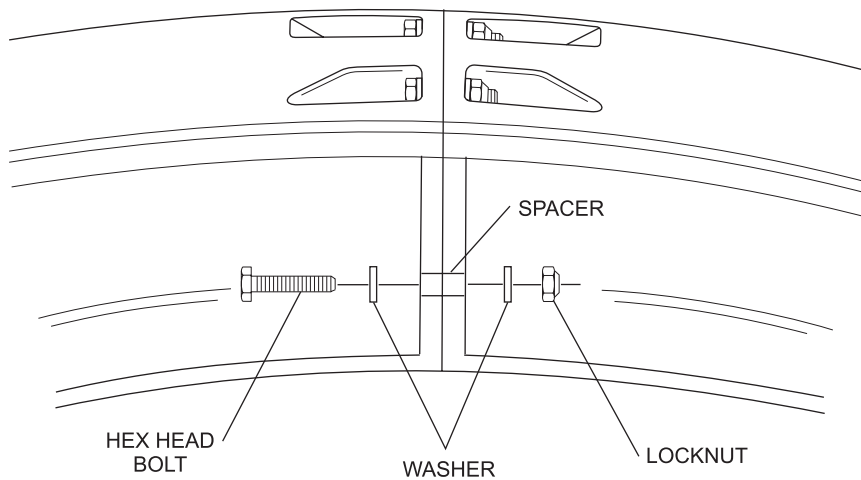

Figure 4
- Position the three segment assembly in the pinsetter and secure it to the four segment assembly with the hardware listed in step 2. Refer to Figure 4.